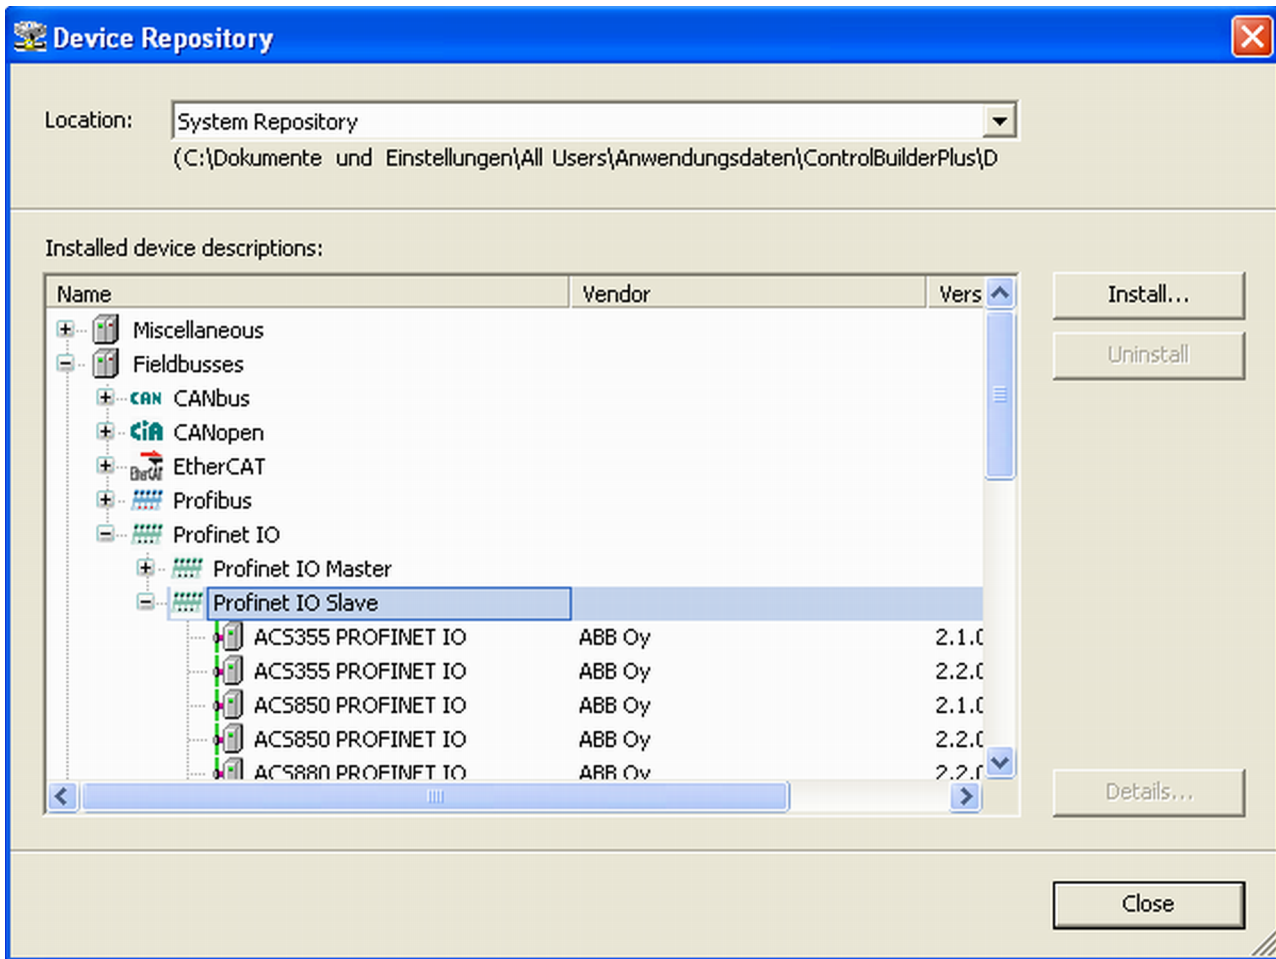

Fig. 67: New device shown in Device Repository
- ⇒ After successful installation, new devices can be found in Device Repository under “PROFINET” object (Fig. 67)